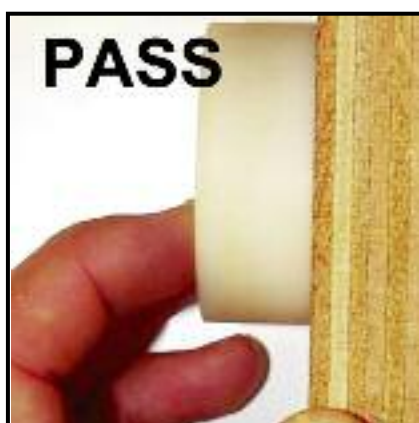

Figure B11. Determining whether a projection is a protrusion
- Step 2: Visually determine if the projection penetrates through the hole and beyond the face of the gauge (see Figure B11 below).